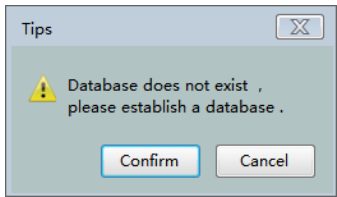
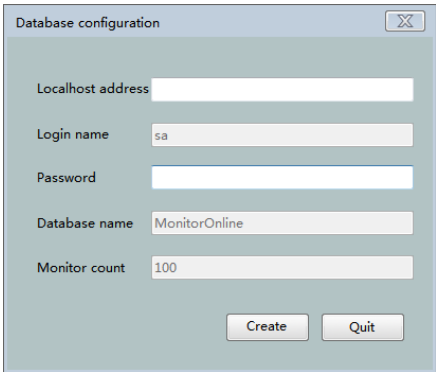

Fig.2.5 Tips
Fig.2.6 Database Configuration
Step 2: Input MNU IP address (IP address of NMU card ), Localhost address (Computer IP of installing database), Login name (Default as “sa” ) and Login password ( password set when installing the database) of database, and click “confirm” button In Fig.2.4. If the database is existent and the connection is successful, then user can log in to the system. If the database does not exist and the connection is unsuccessful, the interface of establishing a database will pop up (see Fig.2.6).
Step 3: Please click “**Confirm**” button in Fig.2.5, then the interface of database configuration will pop up as shown in Fig.2.6.
Step 4: Input Localhost address (Computer IP of installing database) and Login password ( password set when installing the database) of database, and click “**Create**” button In Fig.2.6 to create database, after creating database, the interface of “**Submit success**” will pop up, and click “**OK**” button, then the database connection interface will pop up as shown in Fig.2.4. The other steps are same with Step 2, complete the database connection and user login operation, you can log in the system.